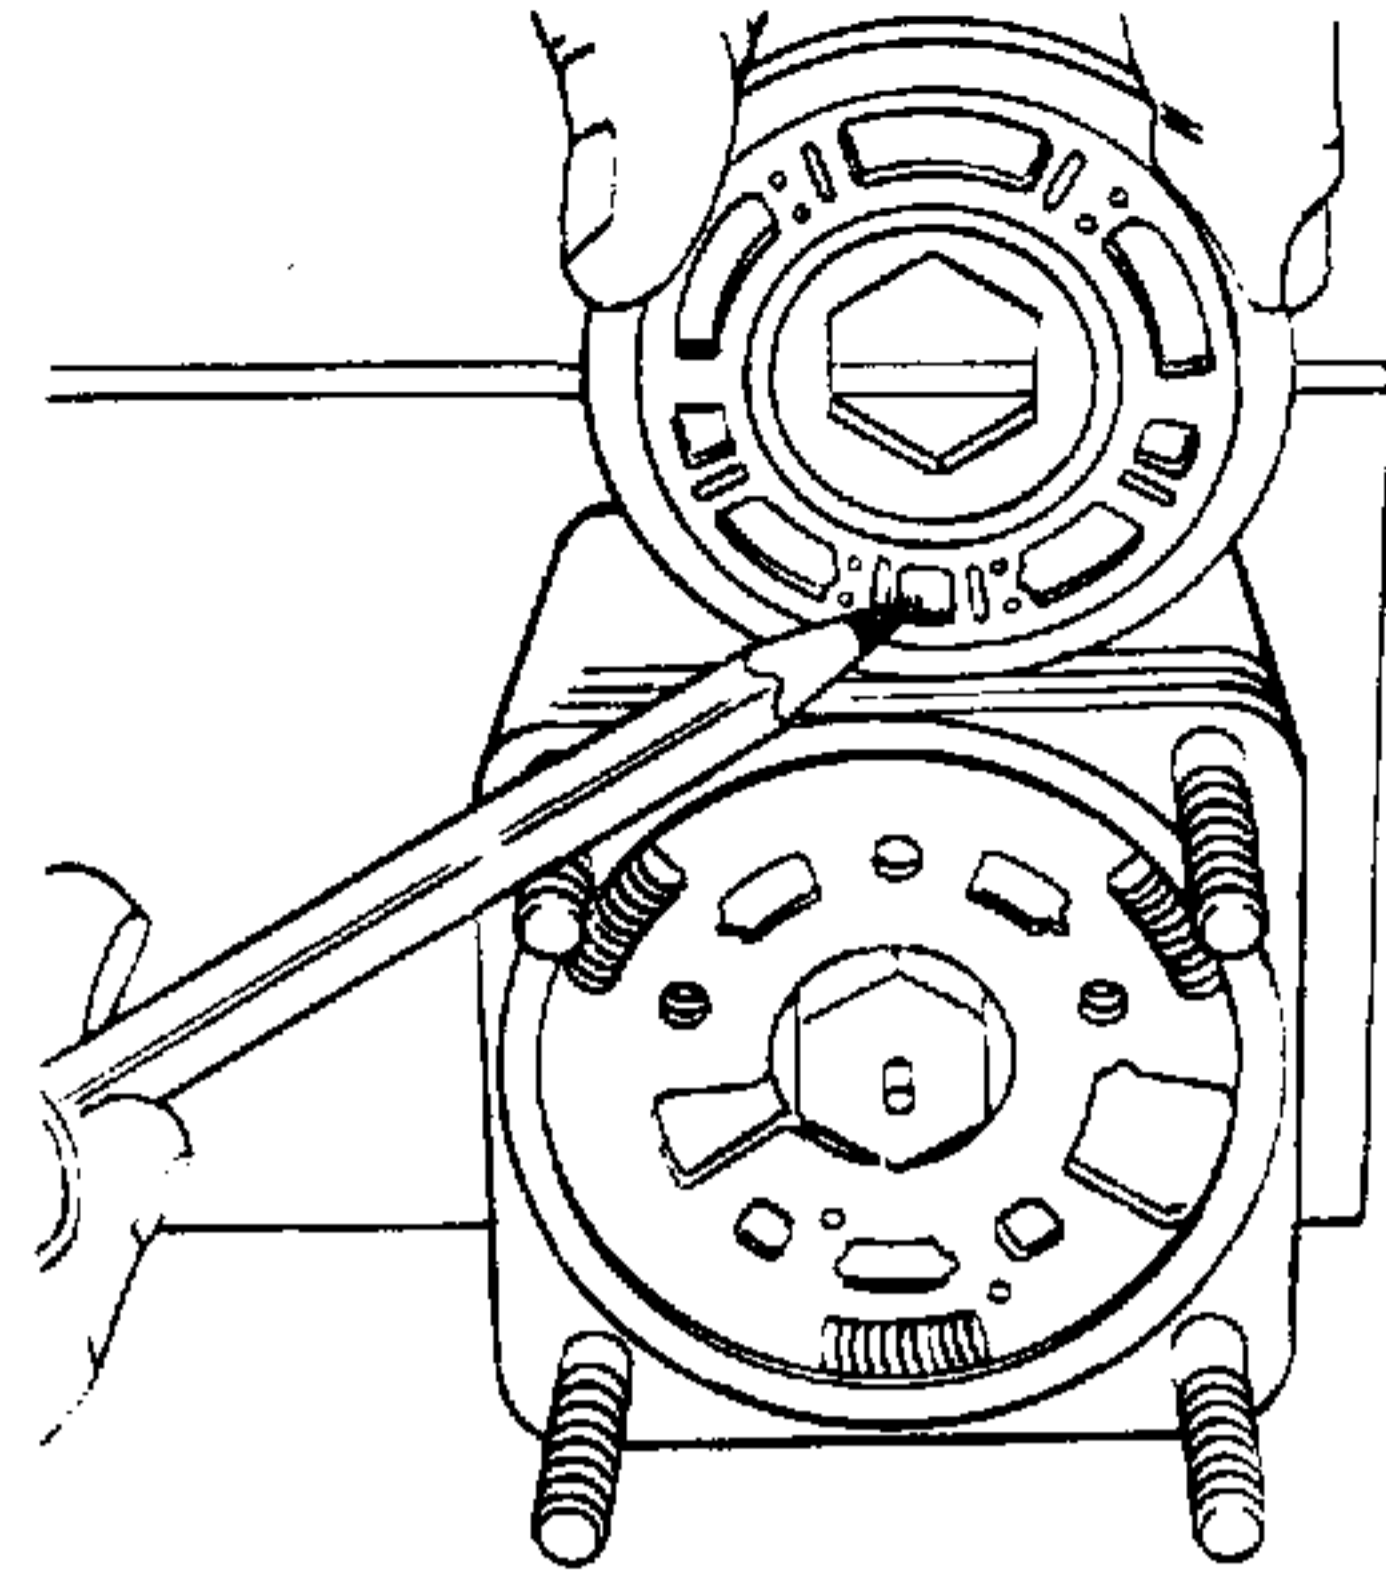
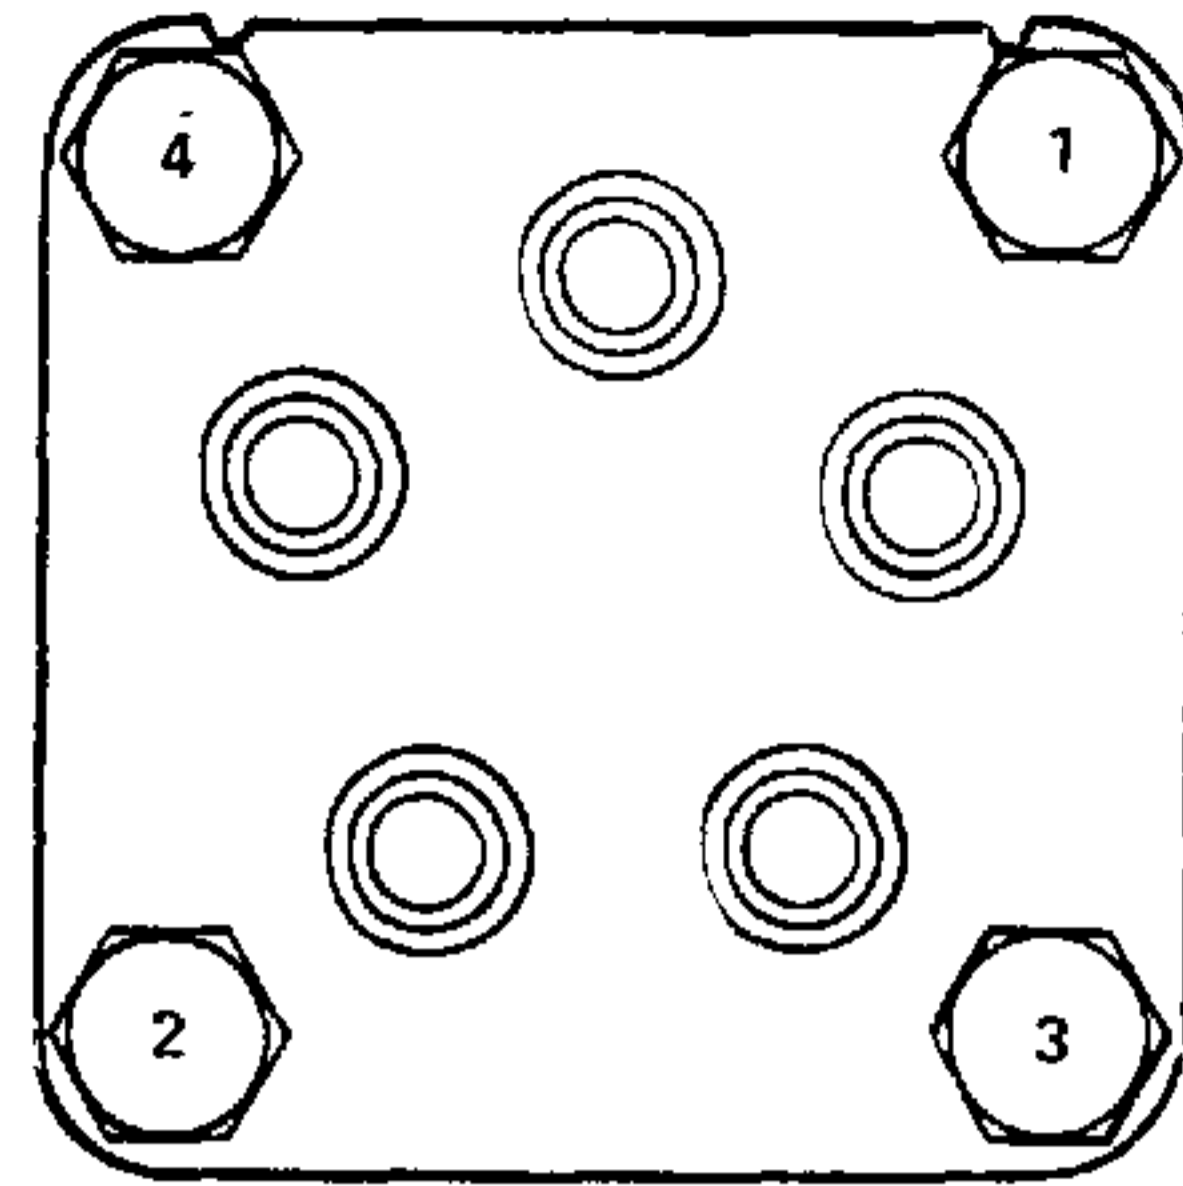

Figure 5-46. Location of Valve Plate Spring Slots.
Figure 5-48. Bolt Tightening Sequence.
Before installing valve plate (8), refer to Figures 5-46 and 5-47 for positioning of valve plate spring slots and its other cavities in relation to spring and spring recesses on isolation manifold (10). Be sure to use alignment grooves on side of isolation manifold for orientation.
22. Install valve plate (8) with surface reading "shaft side" down over hex drive assembly (9), aligning three spring slots centrally over three springs placed in spring recesses of isolation manifold (10). Valve plate spring slot with small cavity and words "port side" centrally below it must be placed over spring and spring recess in isolation manifold at top as shown in Figures 5-46 and 5-47.
23. Grease seal ring (3) and install in valve and ring assembly (7).
24. Place port manifold (5), port side up, on a clean surface and install three springs (6) into spring pockets.
25. Apply a few drops of oil to valve plate (8). Align grooves on side of port manifold (5) with grooves on side of isolation manifold (10). Place port manifold with springs toward valve plate (8). Be careful not to pinch a spring during installation. Two needle rollers (11) in valve plate will engage holes in port manifold. Pin on hex drive assembly (9) must engage center hole in port manifold.
26. Grease O-rings (4) and seal ring (3) and place on power cover and check valve assembly (2).
27. Align a groove on side of power cover and check valve assembly (2) with grooves on side of port manifold (5) and place into position over power cover and check valve assembly (2).
28. Install nuts (1) onto special bolts (34). Tighten each nut gradually until resistance is felt. Torque to 18-22 ft-lbs (24-30 N·m) in sequence shown in Figure 5-48.
29. Grease column dust seal (27) and install on upper cover and tube assembly (33).